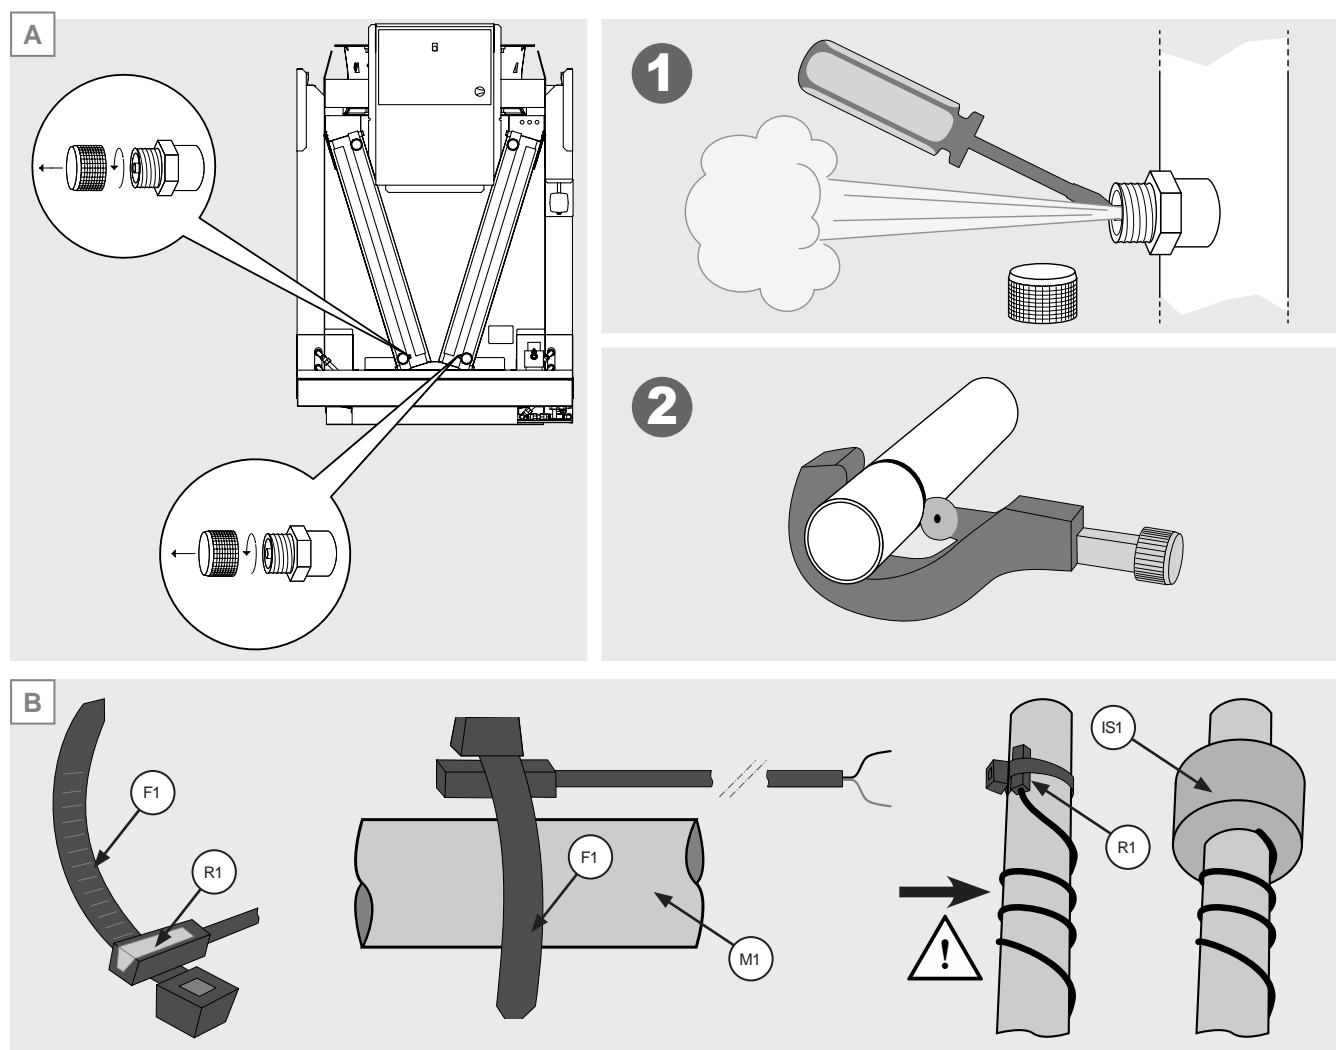

Figure 11
- 6.13 For AVK condensers and AVS gas coolers, discharge the pre-charge pressure (approx. 2 bar) from the heat exchanger before cutting the inlet and/or outlet sleeves. See Figure 11 A.
- 6.14 For gas cooler models only: it is the customer's responsibility to install the temperature probes on the heat exchanger outlet sleeves. The probes consist of a clamp (F1) which supports the detector (R1): the clamp must be fixed to the sleeve (M1) and the electrical cable (C1) must be wound with 2 coils on the tube itself. Thermally insulate the probe with the appropriate insulation (IS1). See Figure 11 B.